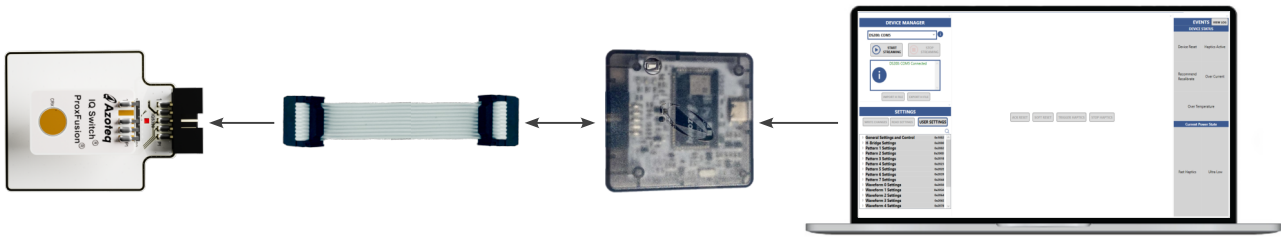

Figure 2.3: DS200 Connection for Streaming and Testing
**Note:** The CT210A can be used instead of the DS200, along with a standard USB-micro data cable and a suitable 20-to-10 pin ribbon cable connection, as shown in Figure 2.3 below.